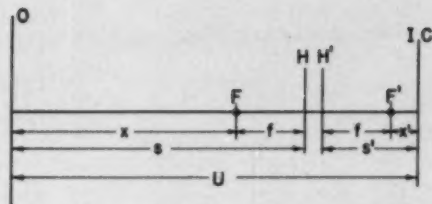

Fig. 1. Basic quantities. Optical object-to-image distance: $u = U - HH'$.
The basic quantities involved in this study are shown in Fig. 1. Here the lens is represented by its front (H) and rear (H') principal planes. The object plane is O. The actual optical image plane is I; it coincides with the camera emulsion plane C when the camera is in exact focus. Otherwise, a focusing error e (shown in the subsequent illustrations) is present. This error is considered positive if the actual image plane is farther away from the lens than the camera emulsion plane.